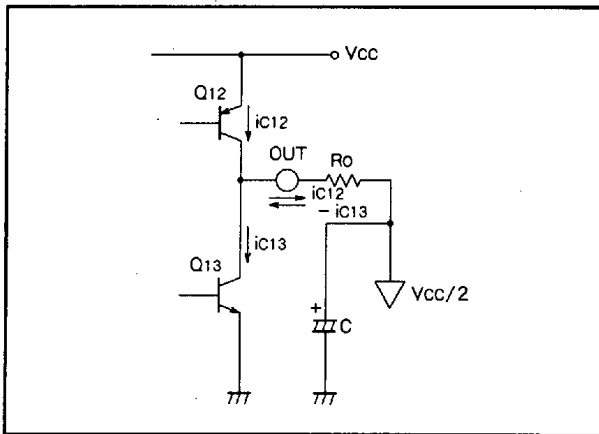

Fig. 4 Equivalent circuit of output stage
The M5222 has a floating-type output stage with the collectors of Q12 and Q13 joined as shown in FIG. 4. Here, the difference of the combined currents will become the output current that will flow through the load. Note that it is necessary to set the DC potential of this output pin by externally-connected resistor R_o and that it is generally DC-connected to the $V_{cc}/2$ pin (or to pin (3)).